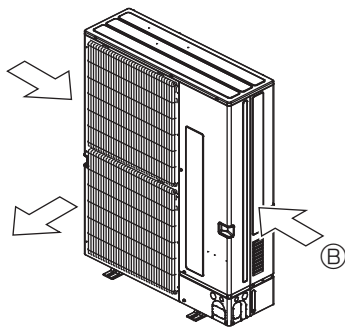

Fig. 2-17
- ② Position the unit so that the air outlet blows perpendicularly to the seasonal wind direction, if possible. (Fig. 2-17)